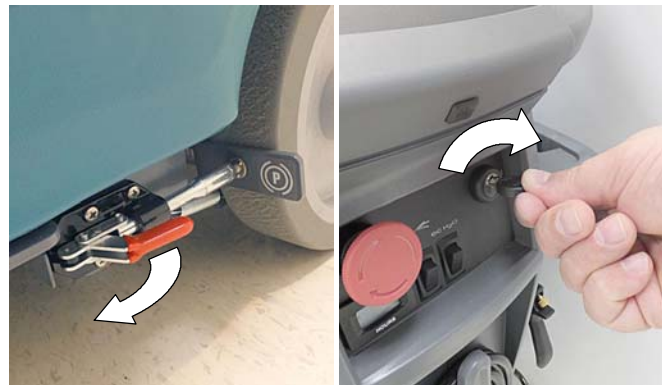

FIG. 73
1. Release the parking brake lever, if equipped (Figure 73)
2. Turn the key to the on (I) position (Figure 73).